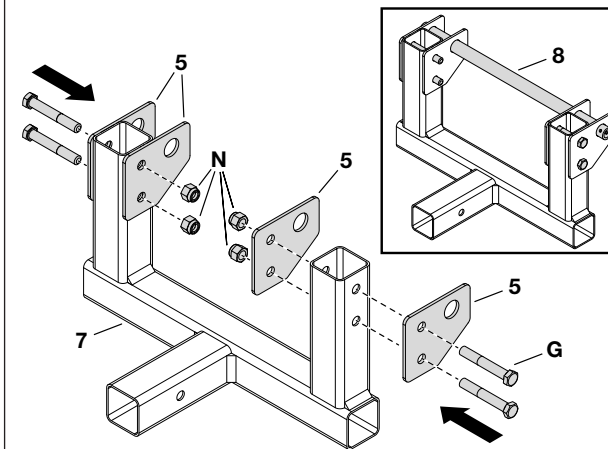

Figure 3
STEP 3: (SEE FIGURE 3)
- Attach four pivot brackets (5) to the blade mount assembly (7) using four hex bolts (G) and Nylock hex nuts (N).
- To help align the pivot brackets (5), temporarily insert the pivot shaft (8) through the holes in the pivot brackets.
- Remove the pivot shaft (8) once the pivot brackets (5) are securely attached to the blade mount assembly (7).